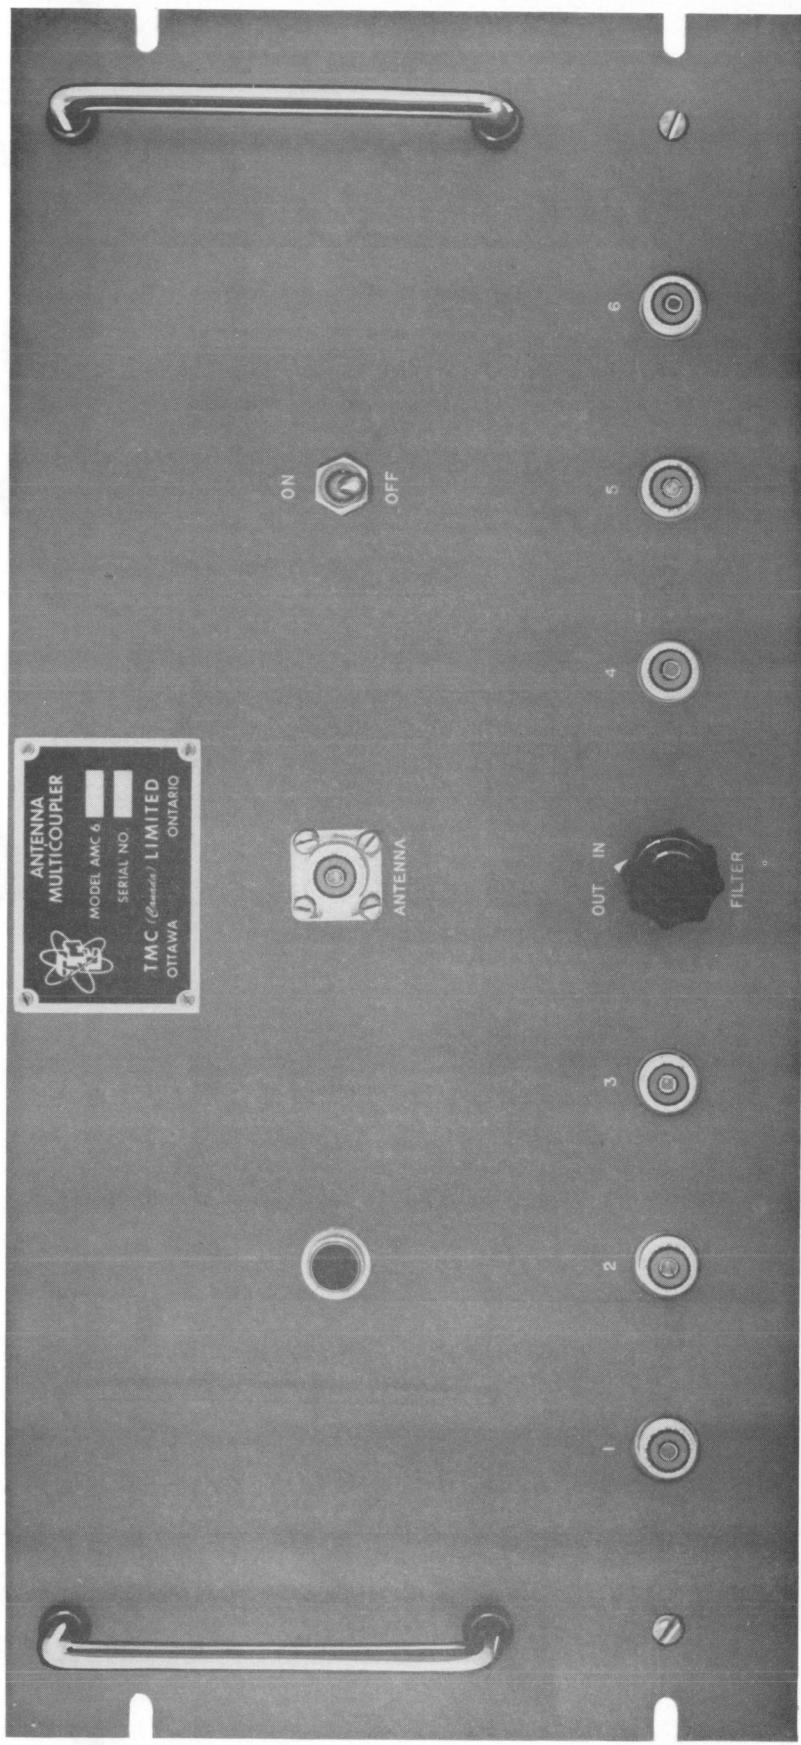
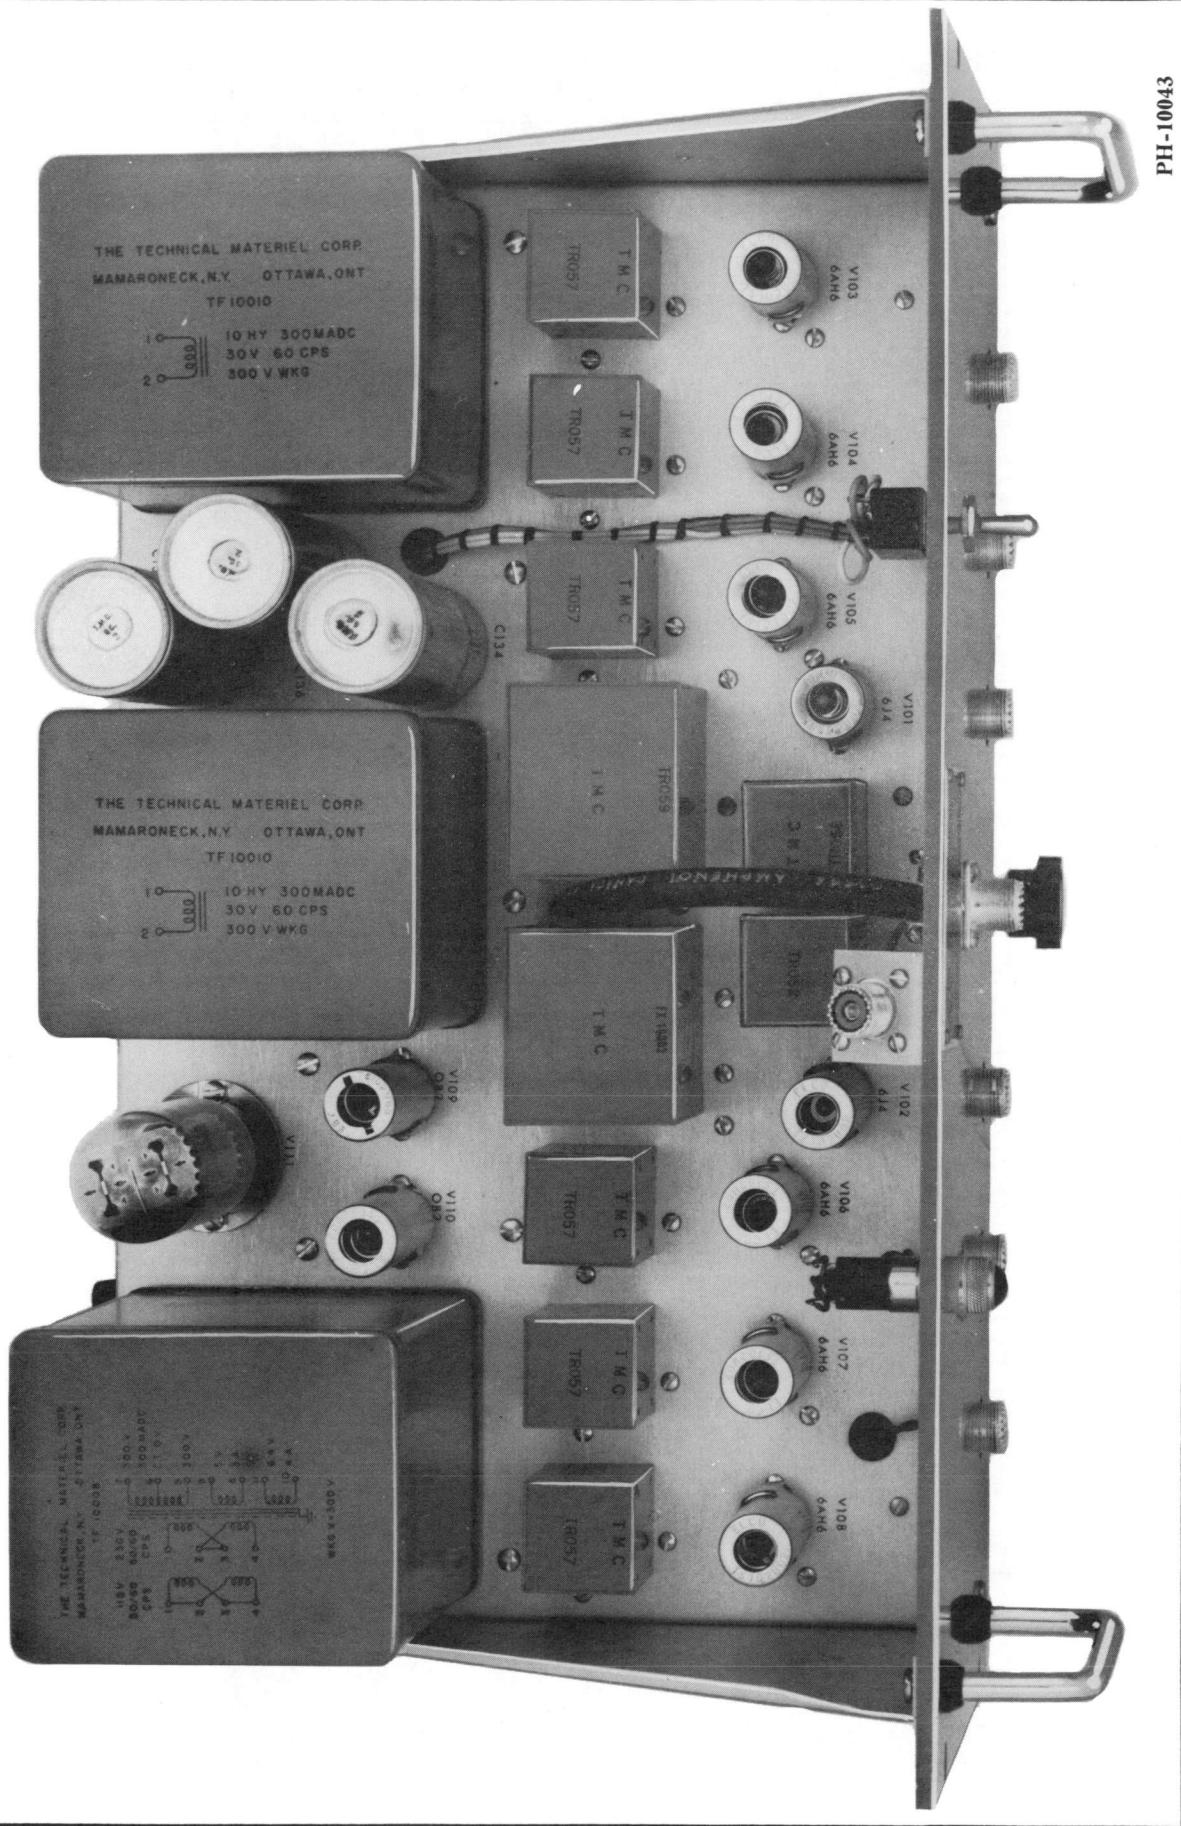

Figure 1-1. FRONT VIEW, AMC 6-2
Figure 1-2. TOP VIEW, AMC 6-2
- b. The Model AMC 6-2 is intended for rack mounting. It is provided with a standard rack panel (as shown in Figure 1-1) which measures 8 $\frac{3}{4}$ inches in height and 19 inches in width. The only front panel controls are the power ON/OFF switch and the FILTER IN/OUT switch. All coaxial jacks carrying RF signals to or from the unit are available on the front panel. (On special order, the unit can be supplied with the output jacks in the rear.) An additional coaxial jack is available immediately behind the front panel where a rear antenna connection is required. A chassis which mounts the main electrical components is shown in Figures 1-2 and 1-3. It is held securely to the front panel by side brackets and occupies a rack depth of 11 inches. The DC power supply occupies the rear half of the chassis while the broad-band amplifier circuit occupies the front half. Power to the unit enters a socket on the rear apron of the chassis as shown in Figure 1-4, while the main power fuse is located immediately to the left of this socket. Total weight of the unit is 37 pounds.